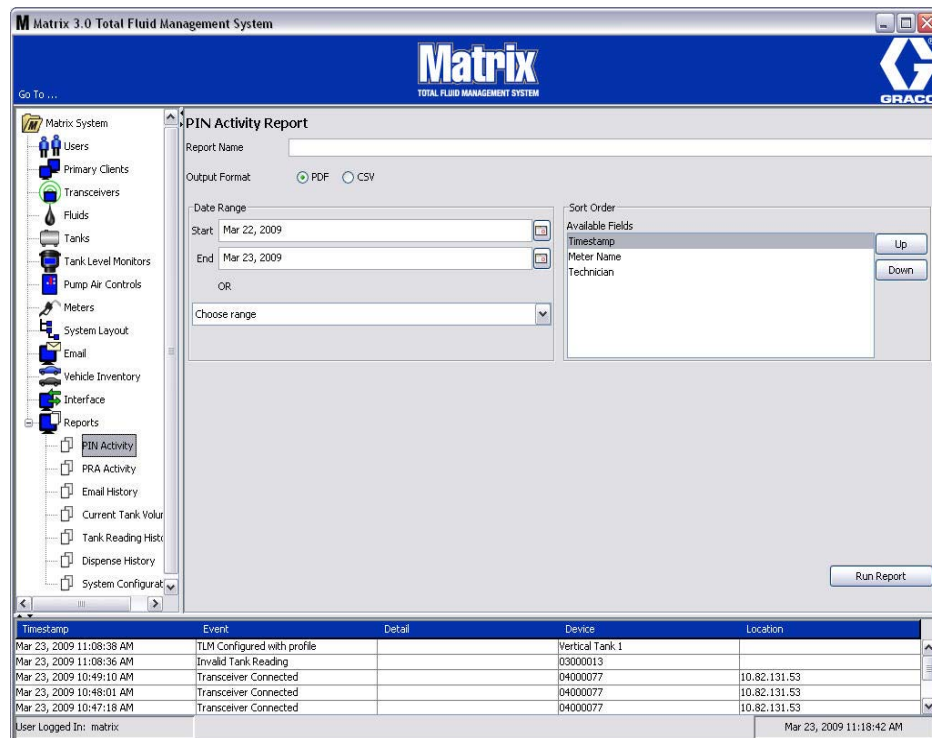

FIG. 186
- **PIN Activity (FIG. 186):**